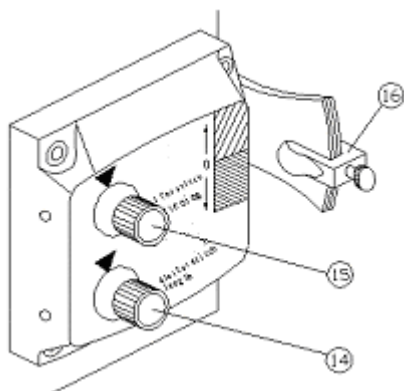

FIG. 4
The stitch length is adjusted by means of the graduated "stitch length adjustment" dial (14). If the dial is set at the number "0" the stitch will be of minimum length. Turning the dial clockwise as far as the number "8" will adjust the stitch to its maximum length. FIG. 4.
The length of the long-short stitch or the short-long stitch is adjusted by means of the graduated stitch correction dial (15). To obtain the maximum correction of the stitch the dial should be set at the number "6". Turning the dial clockwise toward the number "0" will reduce the correction to nothing. FIG. 4.
- (g) Remove the four screws that hold on the stitch adjustment box (104) and take it off. After having checked and if necessary adjusted the three main levels, reinstall the box by following the instructions for dismantling in reverse order, inserting the connecting pin (94) in the assembled box before attaching the spring of the stitch lengthener. Attention: level A must be checked with the graduated dial (15) for correction of the stitch turned as far as it will go in an
anti-clockwise direction so that the pin (105) is at the bottom of the reverser (106). Before commencing adjustment of the transport, set the stitch correction to zero and the stitch length to maximum. These settings are made by means of the appropriate graduated dials (14-15). FIG. 4.